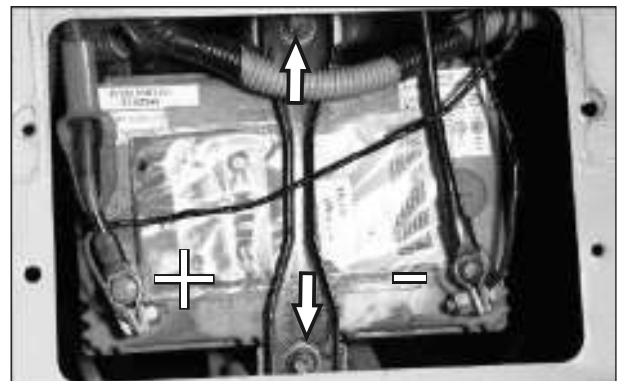

Fig. 2.66
- Disconnect the negative terminal from the battery first and then the positive terminal. Whereas, while reconnecting the terminals, please connect the positive terminal first and negative terminal next. (Fig. 2.66)
- Loosen and remove 2 nos. Hexagonal flange bolts M6X 25 along with 2nos. each plain washer and spring washer from clamp battery. (Fig. 2.66)